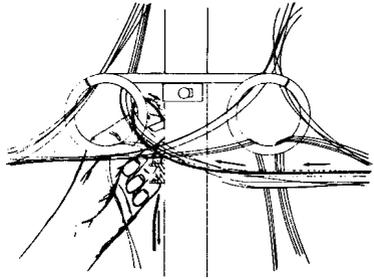
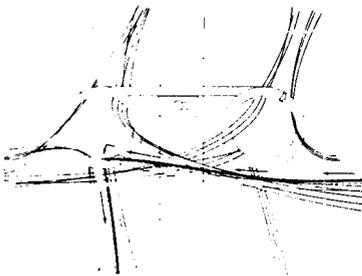

FIGURE 5. Left Hand Placed Under and Back of a Ring to Receive a Right-to-Left Jumper (HLIDF).
FIGURE 6. Tied-Down Jumper Correctly Placed Against the Bottom Inside Edge of a Ring.
- b. If the jumper is to go to a connecting block three or more levels below its horizontal level, use the right hand to bring it around inside and to the bottom of the ring. Place the left hand under and behind the ring to receive the jumper (see Figure 5) and place it in a downward position (see Figure 6). This type of jumper may be run in front of existing jumpers on the vertical side. Run as directly as possible into the proper connecting block hole.